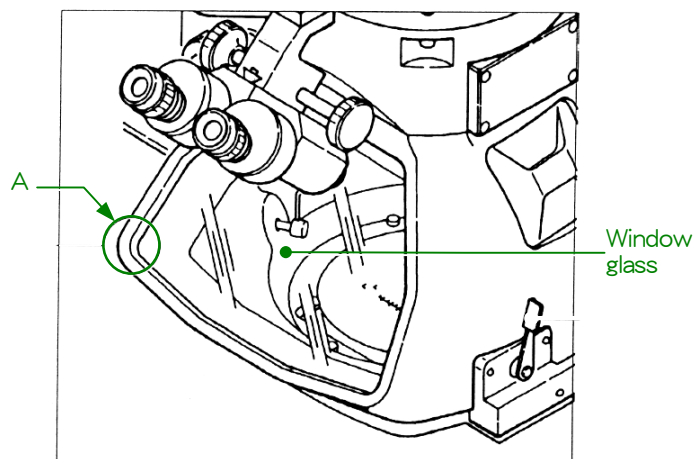
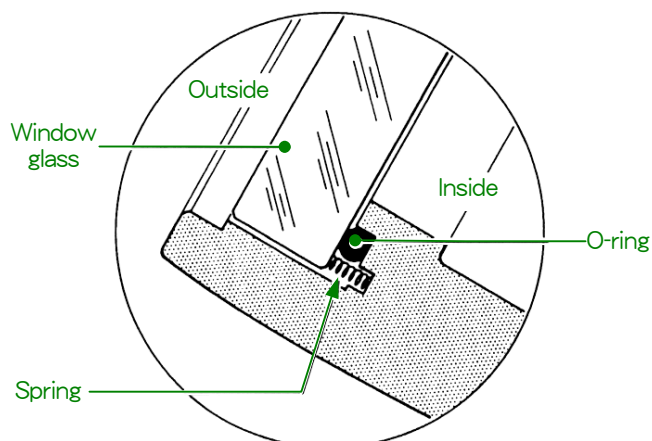

Fig. 6.14 Viewing chamber
Fig. 6.16
5. Make sure that the glass grounding spring (at A in Fig. 6.14) is properly set (Fig. 6.16), and that the O-ring and its mating surface are free from lint; then replace the glass.